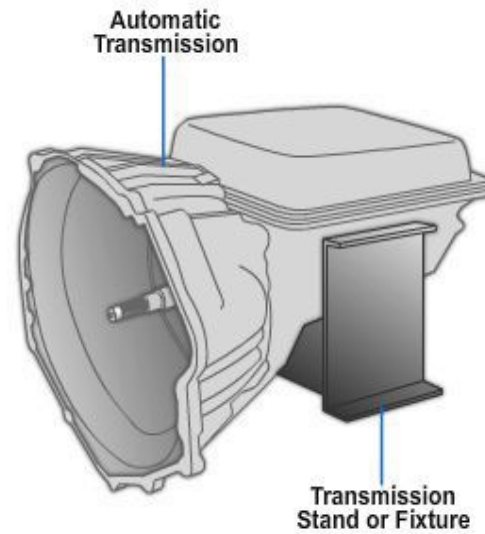

Figure 7-15 – Transmission in a cradle.
4. Place the transmission on the workbench (*Figure 7-15*) and remove the oil pan and oil filter.